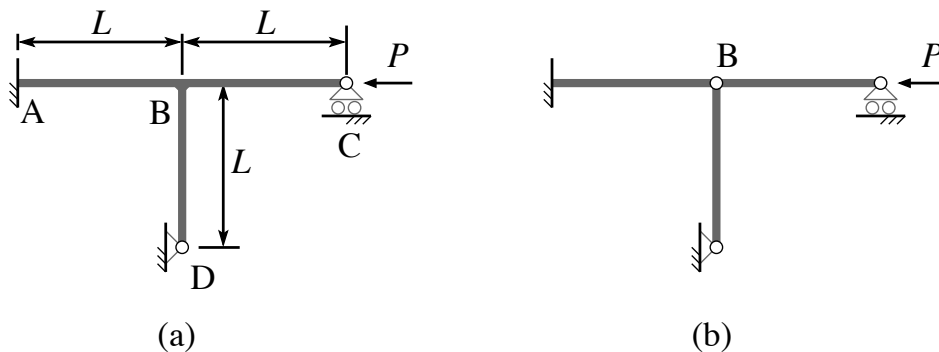

Fig. 4
4 Figure 4(a) indicates a subframe structure, where the horizontal beam, AC, of length $2L$, is rigidly connected in the middle at B to the vertical beam, BD, of length L . Both beams have a linear bending stiffness, EI , and are free of stresses initially. The support at A is built-in, at C is a horizontal roller, and at D is pinned. A horizontal force, P , is applied at C, where the subframe deforms only within the plane of the page. Both beams may be considered to be axially rigid, and Table 1 indicates s and c stability-related functions.
- (c) A pin-joint is introduced at B in Fig. 4(b) before loading again. Determine the new buckling value of P . [30%]